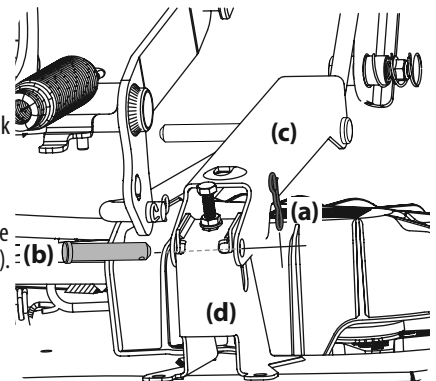

Figure 41
- a. Remove the two bow-tie pins (a) from the clevis pins (b) that secure the lift link brackets (c) to the rear deck lift brackets (d) on the deck. Remove the clevis pins (b). See Figure 41.